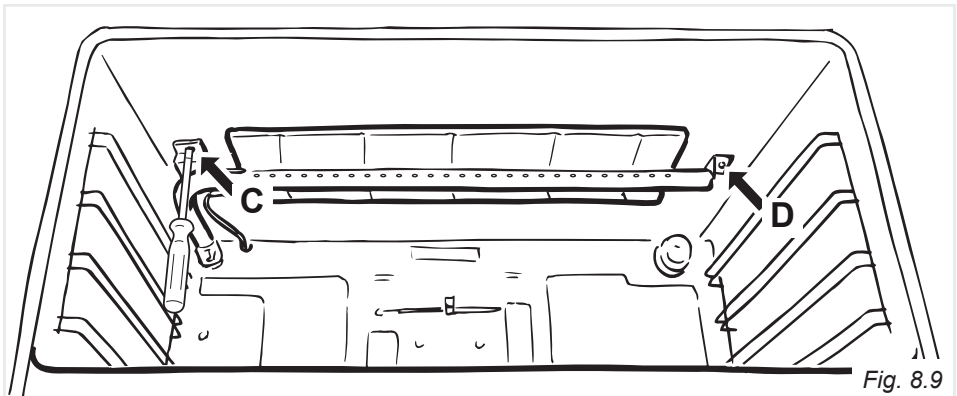

Fig. 8.9
- Unscrew and remove the burner securing screw “C” (fig. 8.9).
- Slacken screw “D” (fig. 8.9).